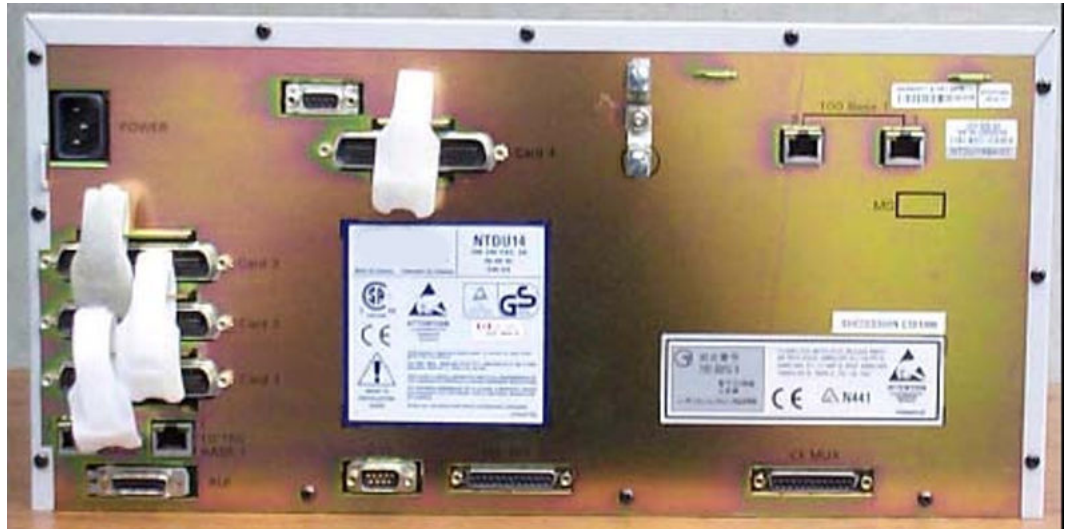

Figure 51: MG1000 chassis
1. Connect the MGC DECT Clock Reference Cable to the AUI port of the back of the MG1000 chassis. Figure 51: MG1000 chassis on page 221 shows the AUI port of the MG1000 chassis.